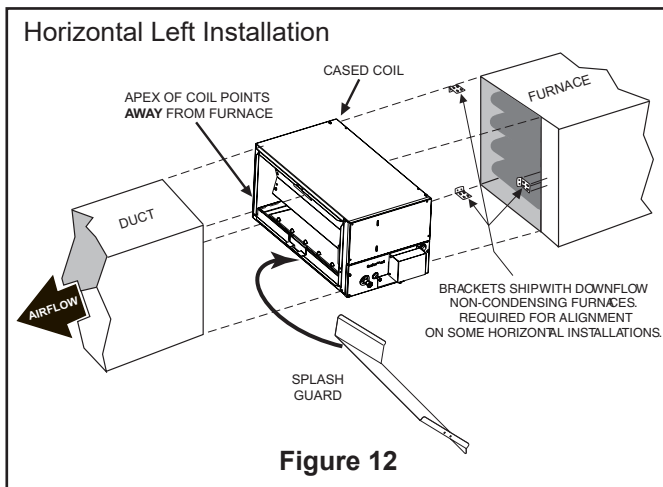

Figure 12
- e. Two brackets are used to attach the rear of the coil and furnace and one bracket is used to attach the front. The rear brackets will use existing screws on the coil enclosure (two on each side at the bottom). Each of the rear brackets will be attached with the wide side of the bracket resting on the top and bottom of the horizontal coil and furnace (see Figure 12). Four additional screws will be used to attach each rear bracket.